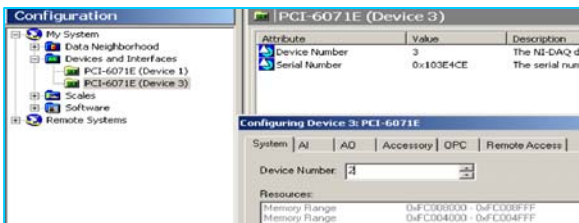

Figure. 1-11
4. Change the configuration of “Device 3” to “Device2” (Figure. 1-11)